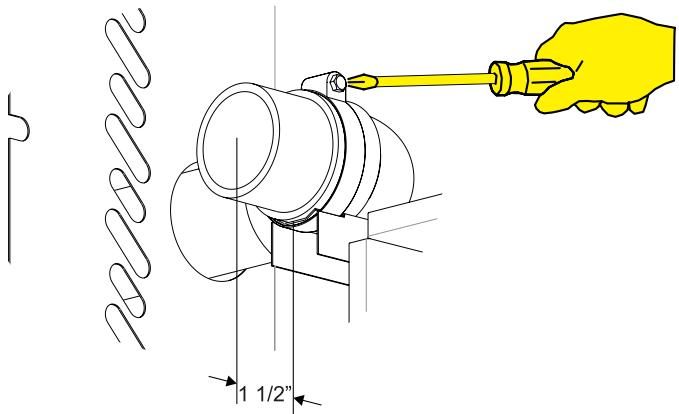

Figure 8
13. Secure the 90 degree elbow inside of the deep shroud to the flue support bracket using the hose clamp provided. **See Figures 8 and 9.**
Make sure that the flue terminates 1 1/2" from the end of the support bracket. **See Figure 8.** For PVC a short piece of pipe will need to be used as an extension, the Poly-Pro elbow no extension will be needed.